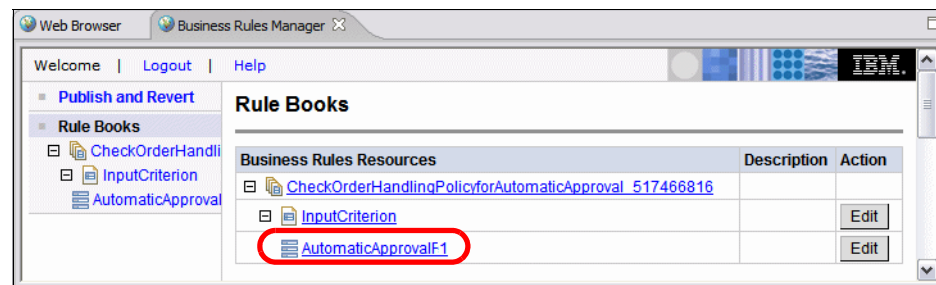

Figure 10-87 Business Rules Manager: Rule books
- ▶ Select *AutomaticApprovalF1* under Rule Books (Figure 10-87).